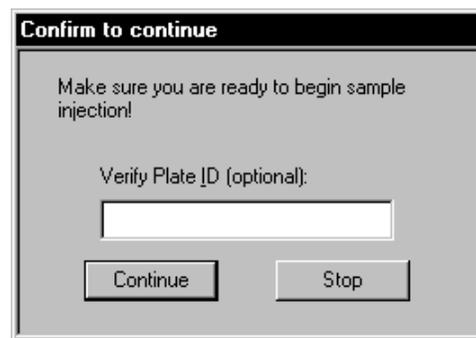

Figure 7-8. The Confirm to continue window with optional plate ID verification.
3. Follow the instructions on the instrument displays. After the first tip rinse is finished, the Confirm to continue window appears in the Instrument Control Manager (figure 7-8).